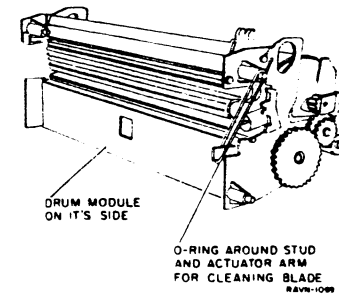

Figure 2. Protecting the Drum Module
5. PROTECT DRUM MODULE (FIGURE 2).
- b. Place module on its left side, as shown in Figure 2, to avoid damage to drum.